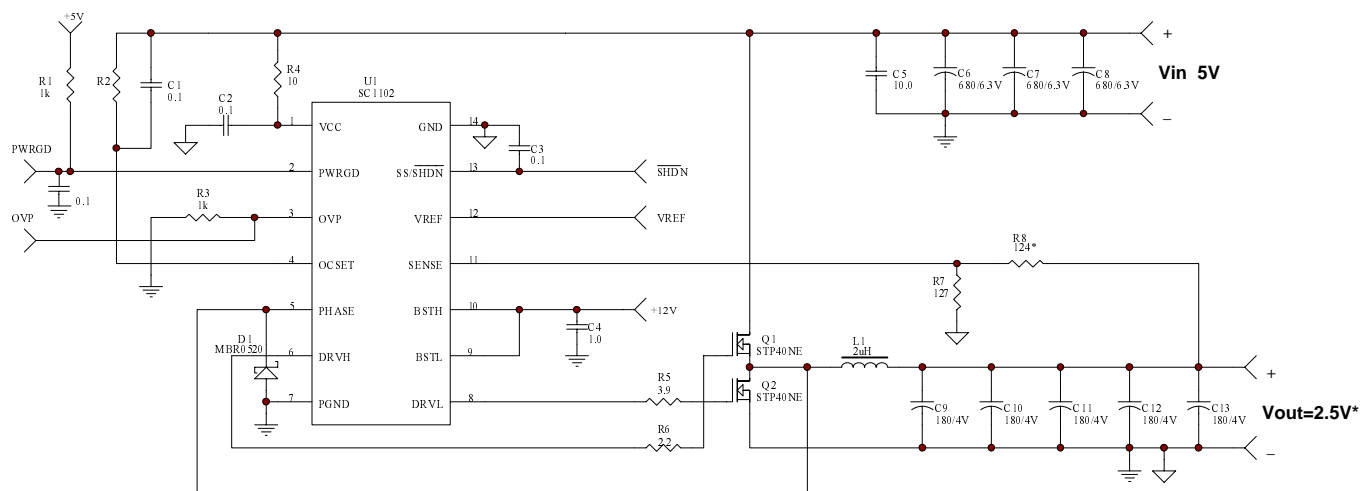

Figure 1.
(1) Specification refers to application circuit (Figure 1).